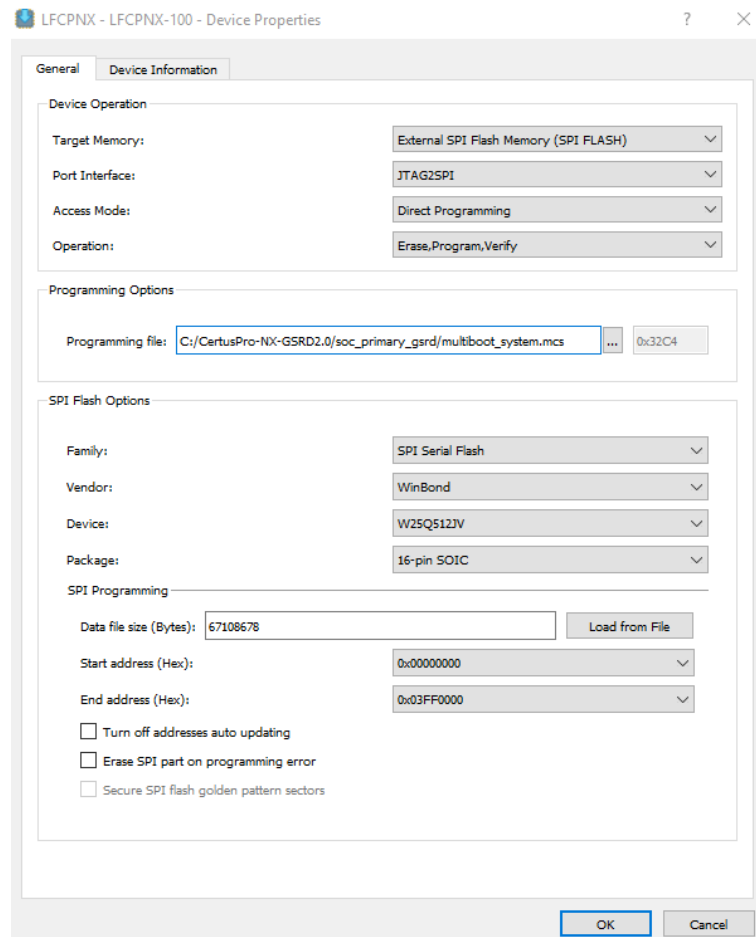

Figure 7.33. Device Properties Window to Setup MCS Programming File
3. To program the **multiboot_system.mcs** file, locate the file in the executables folder that you downloaded and add the file in the Programming file area. The Start Address and End Address are allocated automatically. Confirm the settings as shown in Figure 7.33.